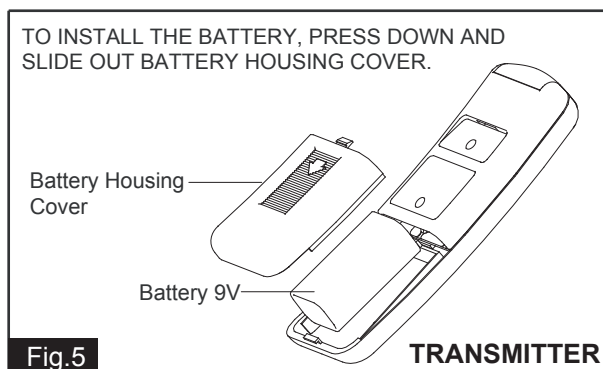

Fig.5
- 5.) Install a 9V battery (not included) into the transmitter. Turn on the power, press button of transmitter to operate the fan. (See Fig.5)